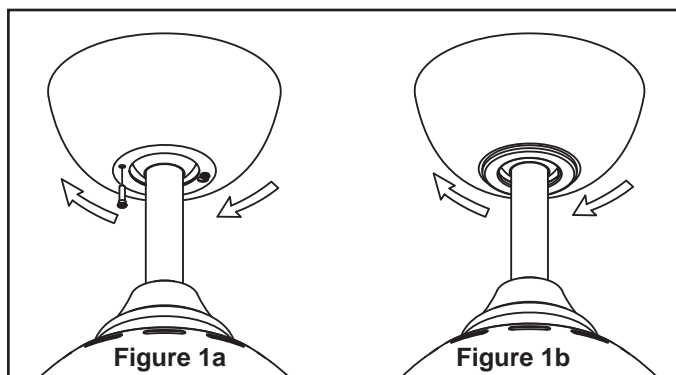

Figure 1a
1. Remove one of the two shoulder screws in the hanger bracket. Loosen the second shoulder screw without fully removing it. Assemble canopy by rotating key slot in canopy over shoulder screw in hanger bracket. Tighten shoulder screw. Fully assemble and tighten second shoulder screw that was previously removed (Figure 1a).